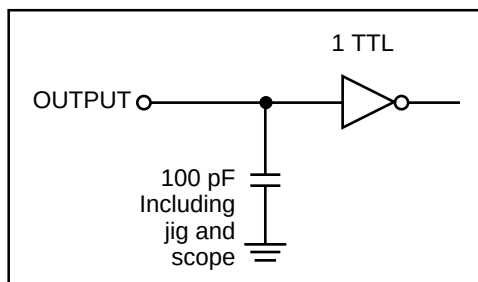

Figure 1
Output Load	See Figures 1 and 2
- Test conditions assume signal transition times of 5 ns or less, timing reference levels of 1.3V, input pulse levels of 0.4V to 2.2V and output loading specified in Figure 1.
- Test conditions assume signal transition times of 3 ns or less, timing reference levels of 1.3V, input pulse levels of 0.4V to 2.2V and output loading specified in Figure 1.